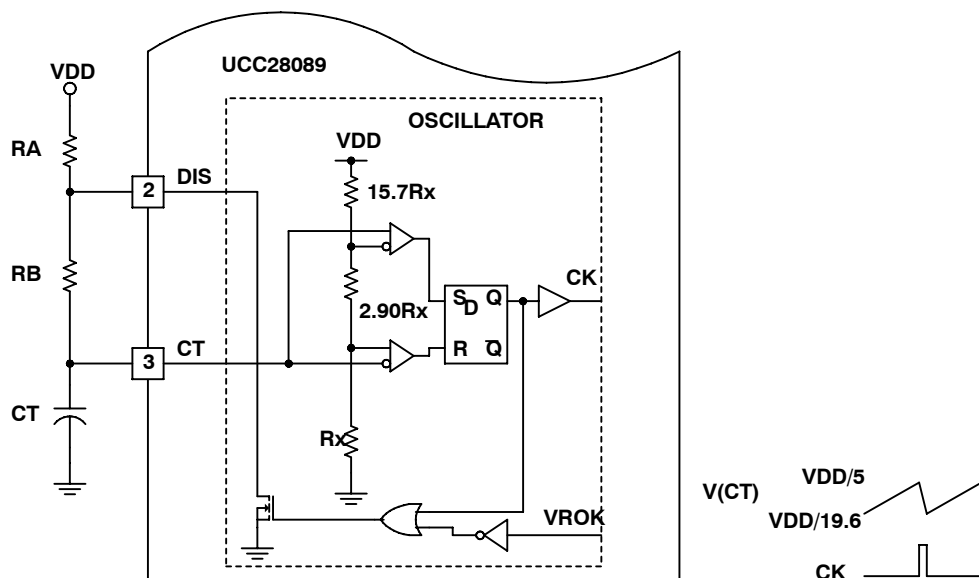

Figure 1. Block Diagram for Oscillator
**CT and DIS:** Oscillator timing capacitor pin and timing capacitor discharge pin. The UCC28089 oscillator tracks VDD and GND internally in order to minimize oscillator frequency changes due to variations in the voltage of VDD. Figure 1 shows the oscillator block diagram.